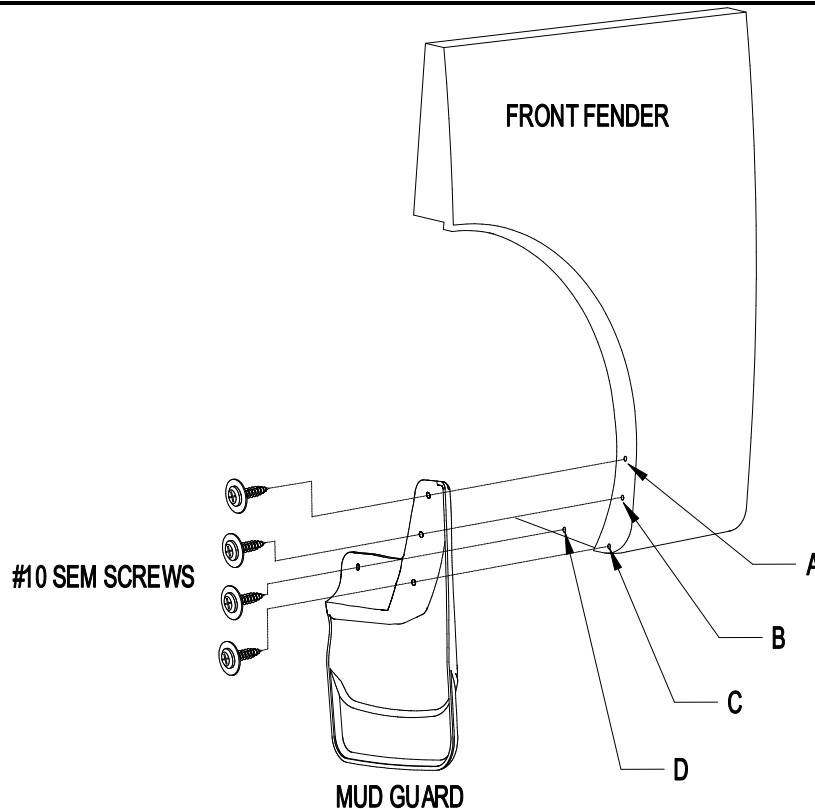

Figure 1
2. Using mud guard as a template, mark, center punch, and drill 1/8" holes at location A (Figure 1).